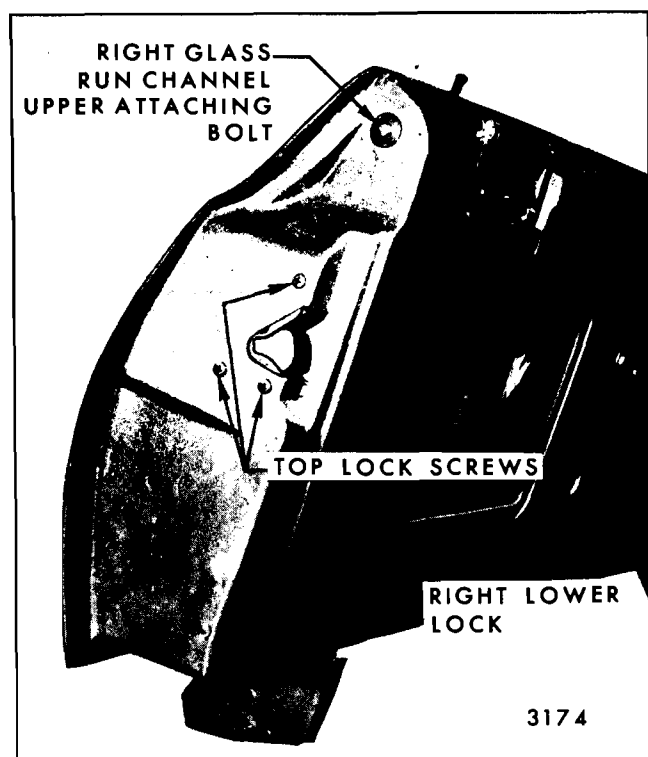

Fig. 9-25—Dual Tail Gate Lock Attachments - Right Side
3. Remove three screws securing lock to tail gate lock pillar panel (Fig. 9-25).
1. Install screws (three) securing lock to tail gate lock pillar panel (Fig. 9-25).